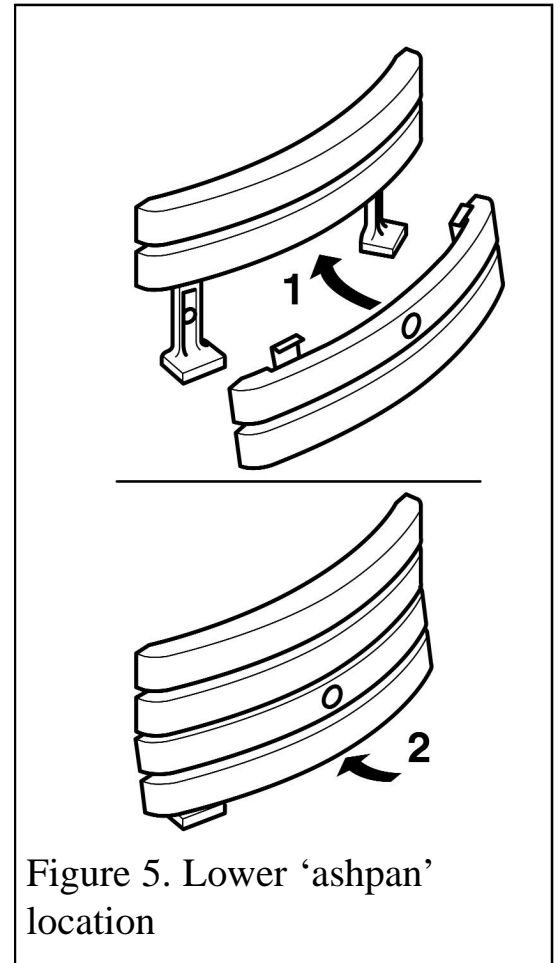

Figure 5. Lower 'ashpan' location
- The lower 'ashpan' should be located as in figure 5.